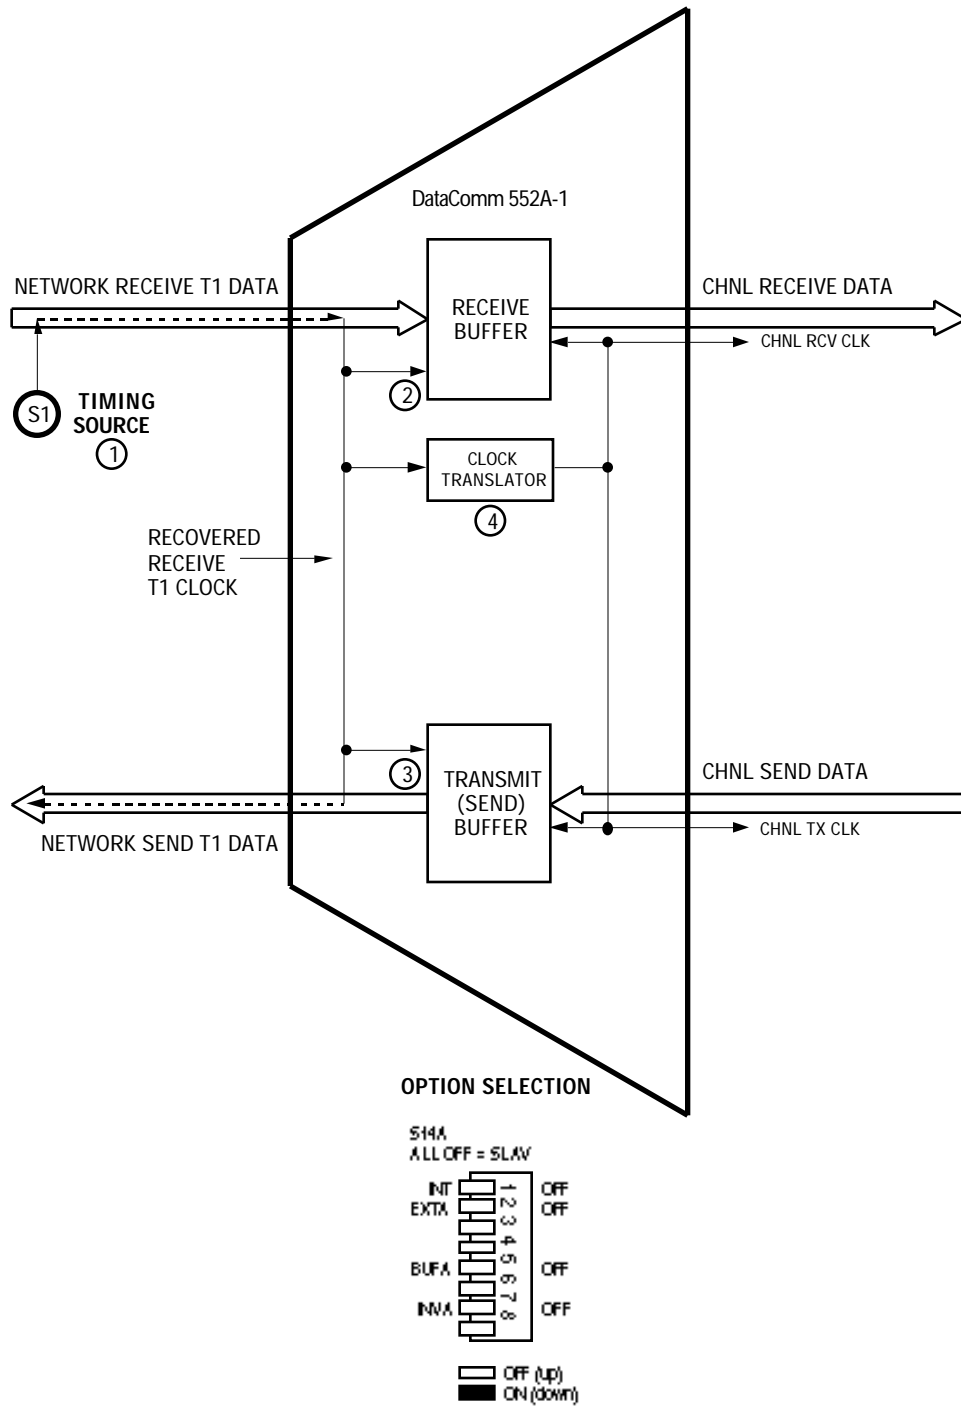

FIGURE B-1. SLAVE TIMING
With Slave Timing, illustrated in Figure B-1, the network (or a device at the remote end) provides the timing source (1). The DSU recovers the receive T1 clock from the network receive T1 data and uses it to clock T1 data into the receive buffer (2) and to provide the send timing source for T1 data output from the transmit buffer (3) to the network. The DSU also translates (4) the receive T1 clock to provide the channel transmit and receive clock signals on the appropriate interface leads for the channel.